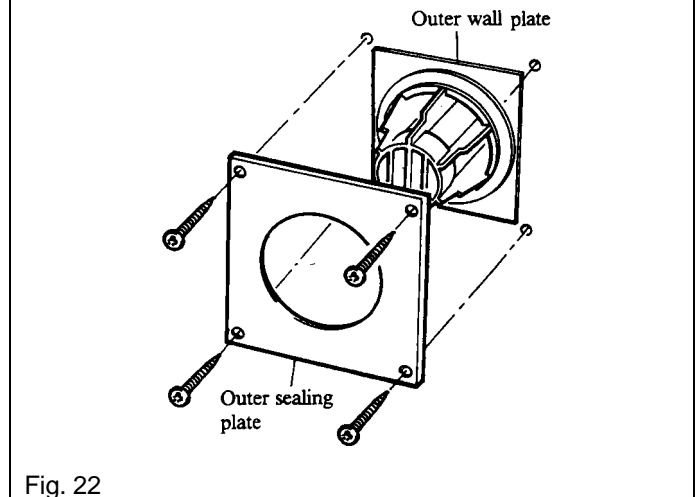

Fig. 22
4. Place the outer sealing plate assembly, supplied with the flue/terminal assembly, over the terminal as shown in Fig. 22 and mark the position of the four fixing holes.